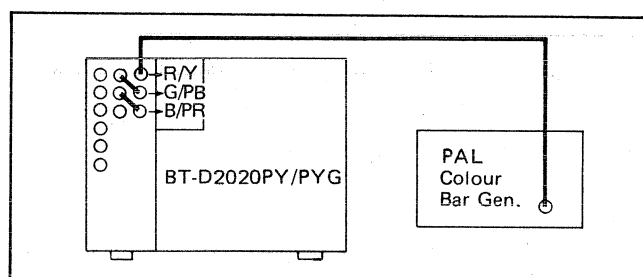

Fig. 15
1. Connect the Y loop through output to Pb input terminal and Pb loop through output to Pr input terminal as shown in Fig. 15.